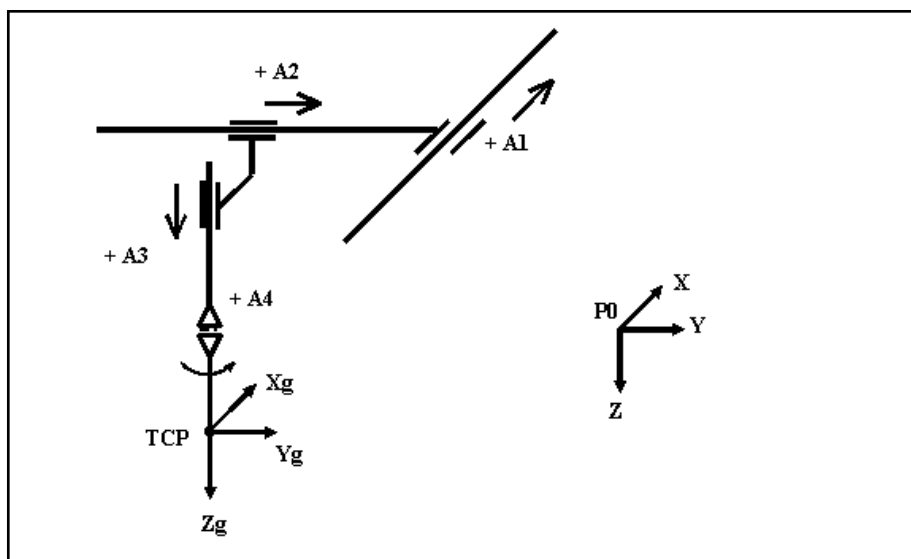

Fig. 18-1: Robot type 0, Cartesian robot, 3D perspective
- fig. 18-1 "Robot type 0, Cartesian robot, 3D perspective " on page 228 and